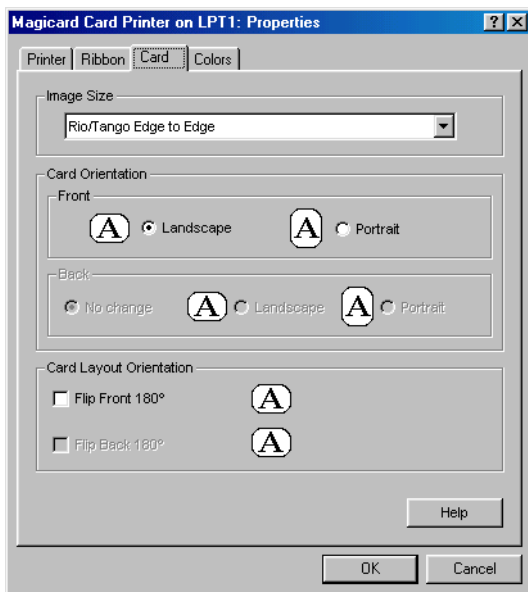

Figure 8: Printer Configuration Options – Card Tab
10. Click on the Card Tab and a window with card layout options appears (see Figure 8).
*NOTE: Your choice between Portrait or Landscape orientation **must** match what you select under printer setup (see Figure 8 on page 8).*